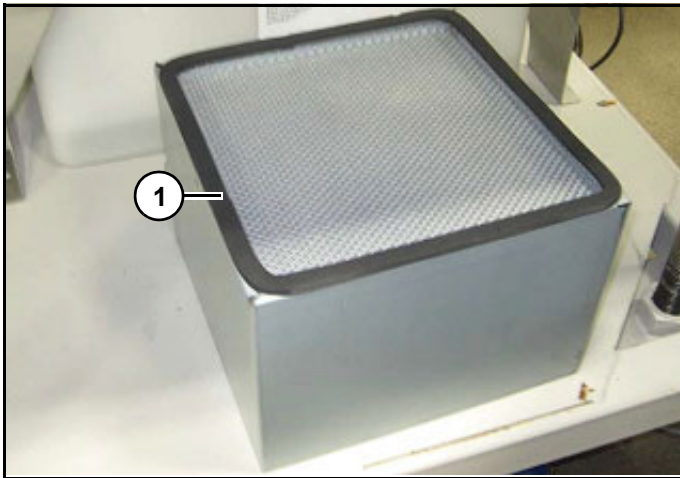

Figure 17
5. Remove and replace filter (1) (Figure 17).